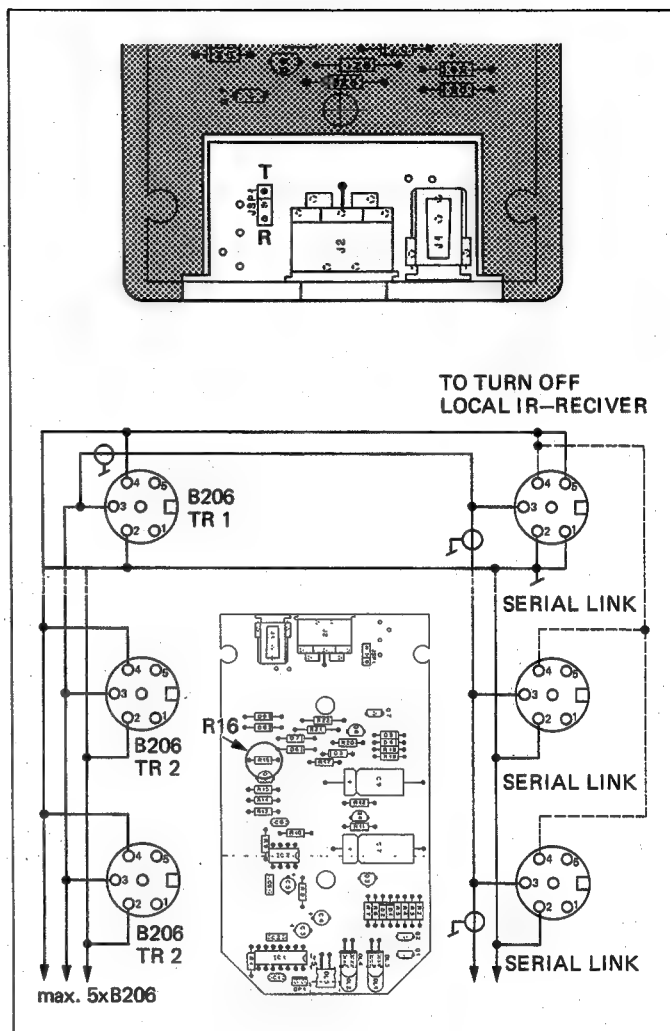

Fig.4.1
2. Wire DIN connector for B206 • Transceiver and the SERIAL LINK socket according to Fig. 4.1.
As can be seen from Fig. 4.1, several B206 • Transceivers as well as several REVOX units can be connected in parallel with SERIAL LINK sockets. The installation must be executed very carefully and the connecting cables should be prepared by an experienced technician. Up to 5 B206 • Transceivers can be supplied by one unit of the hi-fi system. The resistors R16 in the transceivers 2 through 5 must be removed.
* On all units with SERIAL LINK the internal IR receiver can be switched off. (In the connector Link pin4 with pin5, as well as pin1 with pin 2. Caution in the case of parallel-connected units: see Fig. 4.1.)